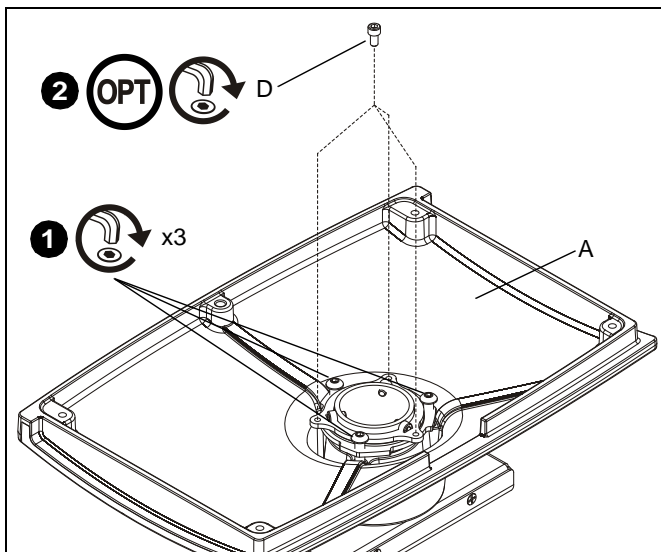
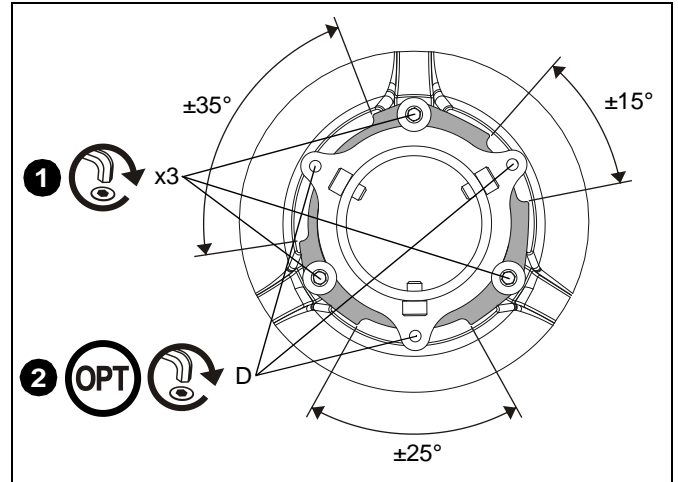

Figure 2
Figure 3
1. To increase or decrease rotational tension, slightly loosen or tighten (as required) all three adjustment screws in stand (A) (See Figure 2)(See Figure 3). Use hex key (N).
2. OPTIONAL: If desired, the rotational range may be limited to $\pm 15^\circ$, $\pm 25^\circ$, or $\pm 35^\circ$ by installing screw (D) into one of three stop holes in stand (A) (See Figure 2)(See Figure 3). Use hex key (N).